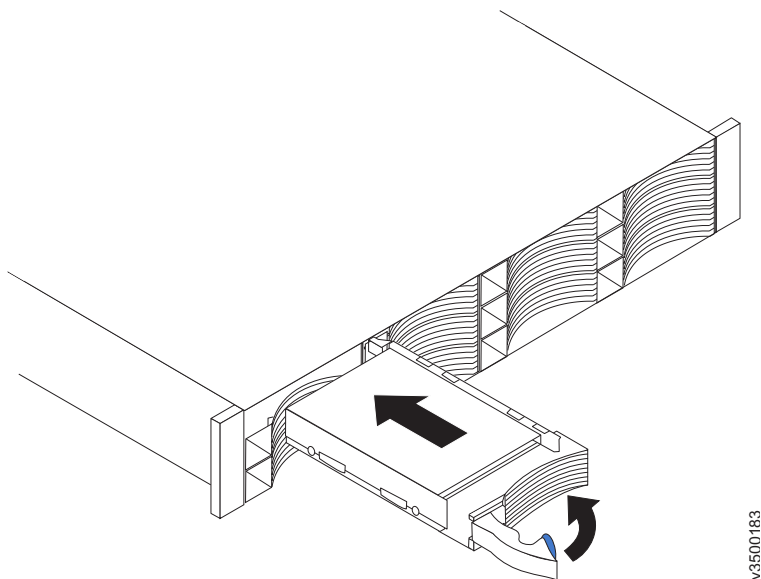

Figure 95. Installing and locking a 3.5-inch drive into its slot
14. Align the drive assembly with the guide rails in the bay (see Figure 95 on page 323).